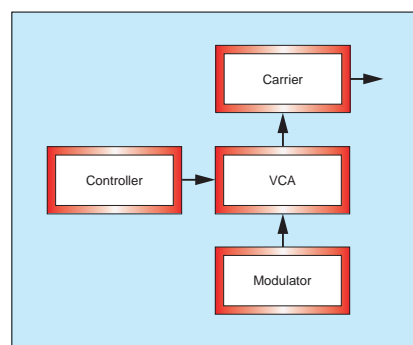

Figure 8: A simple analogue FM (vibrato) patch.
► (see Figure 8). Don't forget that in this case, the Modulator frequency w_m is very much lower than the Carrier frequency w_c .